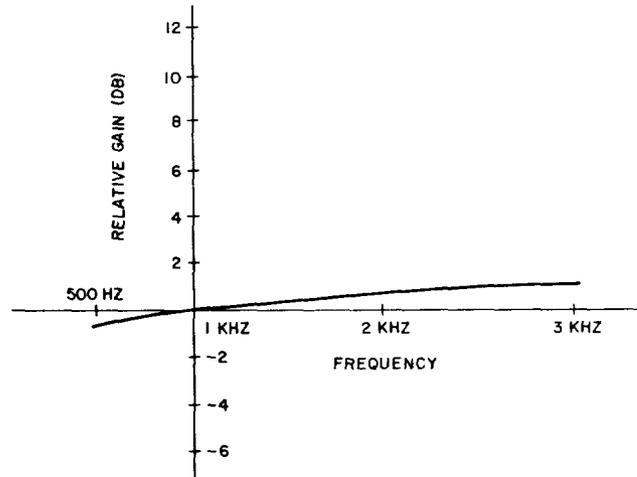

Fig. 6— Amplifier Frequency Response
5.02 Figure 6 gives the amplifier frequency response of these CFUs.